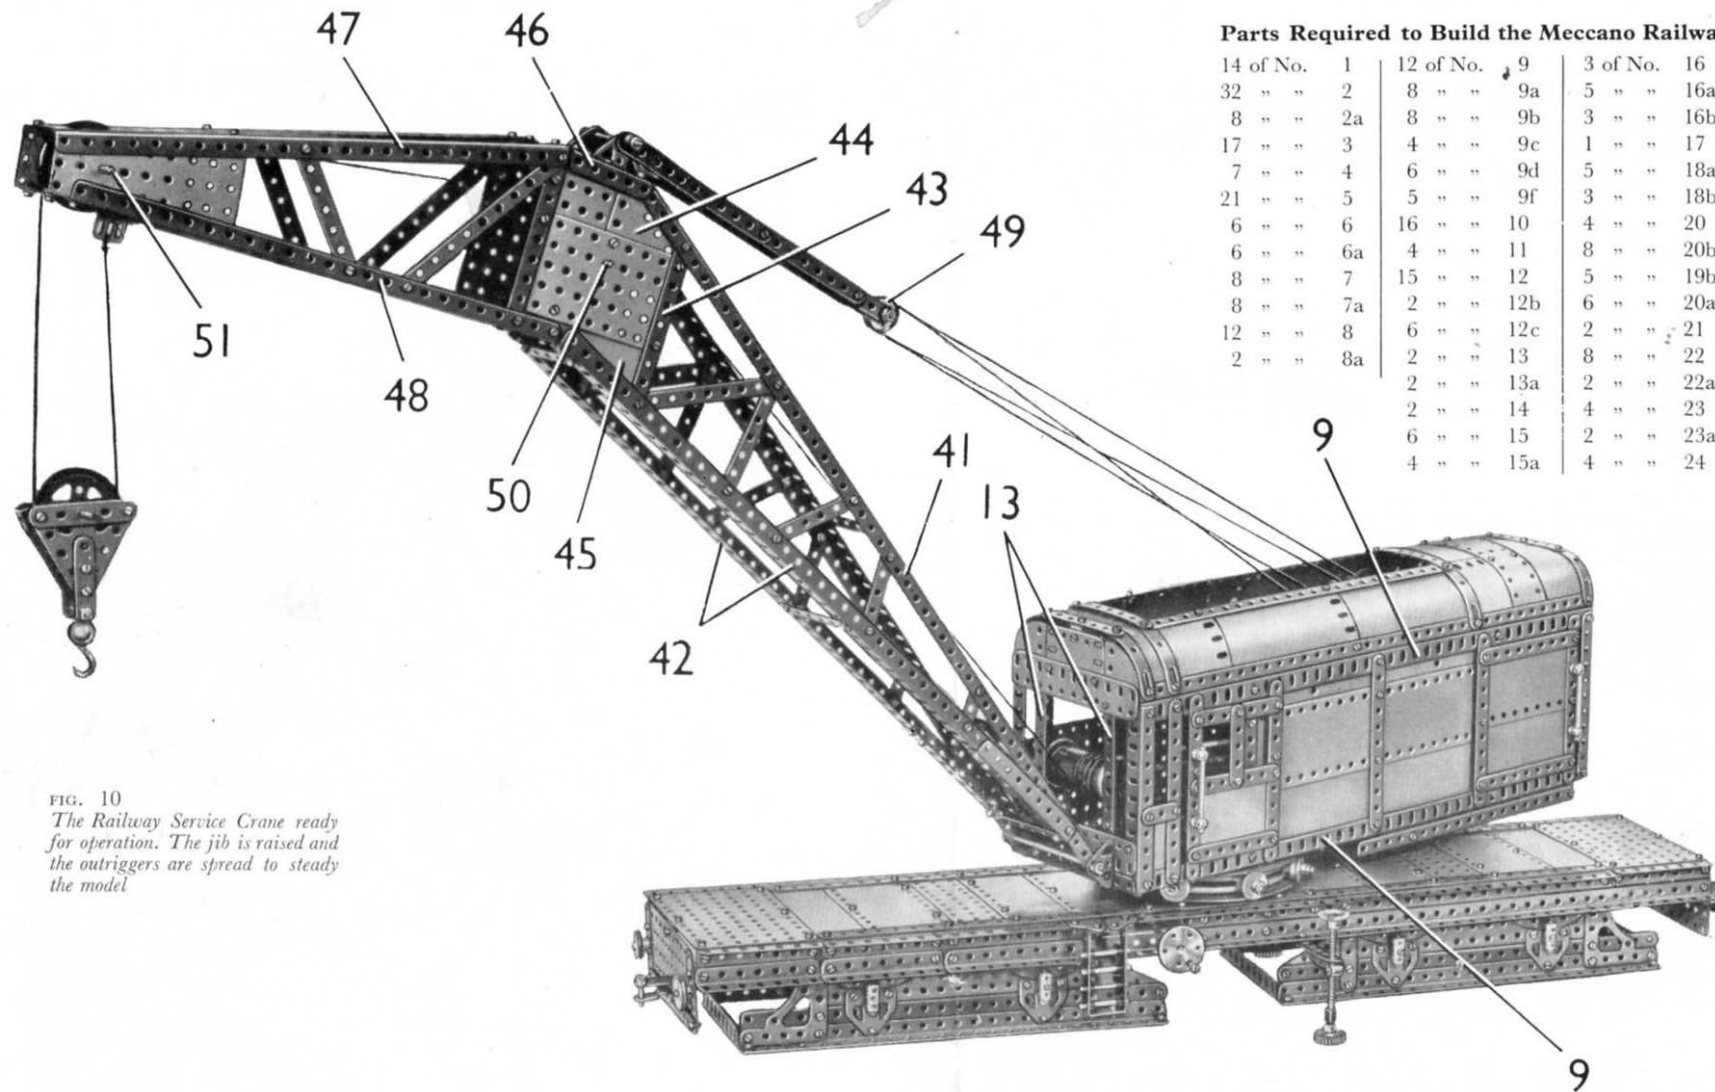

FIG. 10
The side seen in Fig. 10 is built up on a framework formed by two  $18\frac{1}{2}$ " Angle Girders (9) joined at each end by a  $5\frac{1}{2}$ " Angle Girder. The side is partly filled in by four  $5\frac{1}{2}$ "  $\times$   $2\frac{1}{2}$ " Flexible Plates and two  $5\frac{1}{2}$ "  $\times$   $1\frac{1}{2}$ " Flexible Plates attached to three  $5\frac{1}{2}$ " Strips, which are bolted to the Girders (9). The Plates are spaced from the Strips by Washers however, so that the sliding doors can pass freely in front of the Plates. At the front end of this side a  $2\frac{1}{2}$ "  $\times$   $1\frac{1}{2}$ " Flexible Plate is bolted to the  $5\frac{1}{2}$ " Angle Girder, and it is edged by a  $1\frac{1}{2}$ " and a  $5\frac{1}{2}$ " Strip.
The sides are connected at front and back by two  $5\frac{1}{2}$ " Angle Girders bolted to the ends of the Girders (9). A  $5\frac{1}{2}$ " Flat Girder is fixed to the top  $5\frac{1}{2}$ " Angle Girder at each end, and to this are bolted a  $2\frac{1}{2}$ "  $\times$   $1\frac{1}{2}$ " Flexible Plate and two Semi-Circular Plates. Another  $5\frac{1}{2}$ " Flat Girder is fixed to the lower part of the front of the cab and two  $5\frac{1}{2}$ " Strips (13) are bolted in position (Fig. 10). The back of the cab is filled in by a  $5\frac{1}{2}$ "  $\times$   $1\frac{1}{2}$ " Flexible Plate and two  $5\frac{1}{2}$ "  $\times$   $2\frac{1}{2}$ " Flexible Plates.
### Details of the Jib (Fig. 10)
The upper side members of the inner section of the jib each consist of a  $24\frac{1}{2}"$  Angle Girder (41) (Fig. 10)—the lower members of this section are built-up girders (42) and are each made from an  $18\frac{1}{2}"$  Angle Girder and a  $4\frac{1}{2}"$  Angle Girder overlapped two holes. These parts are bolted together at their lower ends, and are connected at their upper ends by a  $4\frac{1}{2}"$  Strip (43). A  $4\frac{1}{2}" \times 2\frac{1}{2}"$  Flat Plate, a  $3" \times 1\frac{1}{2}"$  Flat Plate, a  $2\frac{1}{2}" \times 2"$  Triangular Flexible Plate (44) and a  $3\frac{1}{2}" \times 2"$  Triangular Flexible Plate (45) are bolted together and are fixed to the Strip (43).